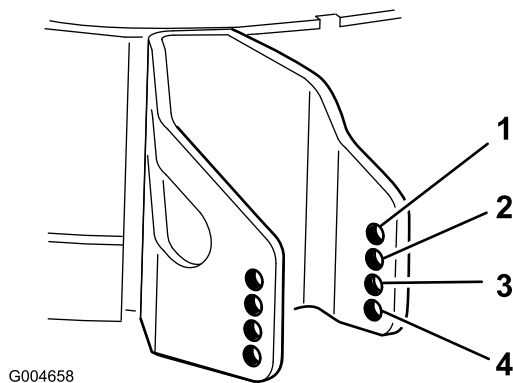

Figure 19
4. Select a hole so the anti-scalp roller is positioned to the nearest corresponding height-of-cut desired (Figure 19).